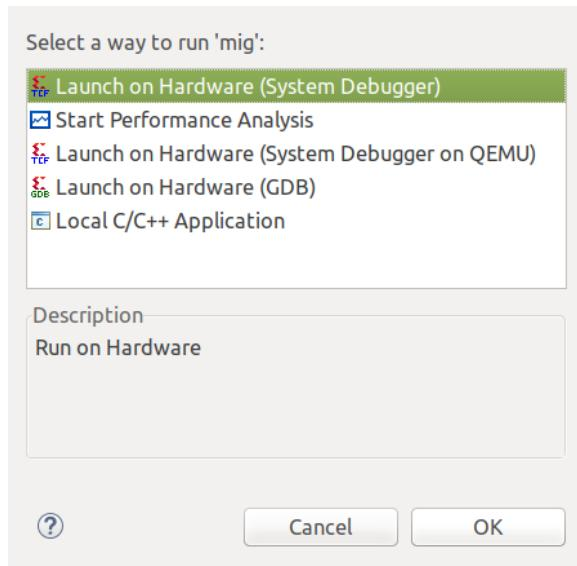

Figure 10. Run bare metal application from Xilinx SDK
- c. “Run>Run” using the option selected in Figure 10.